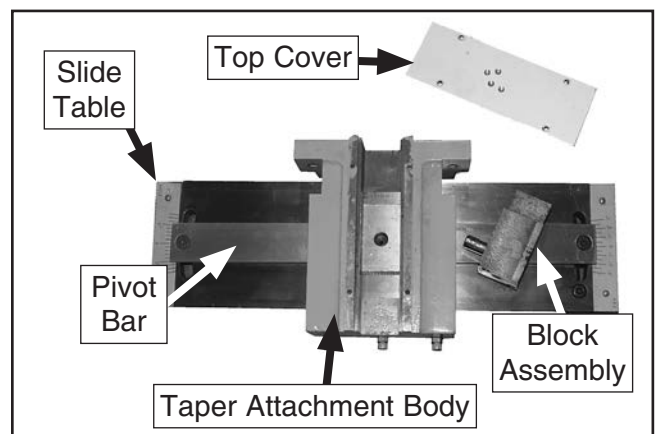

Figure 11. Top cover and block assembly removed from taper attachment body.
- Remove the top cover from the taper attachment body (see **Figure 11**), then remove the block assembly.